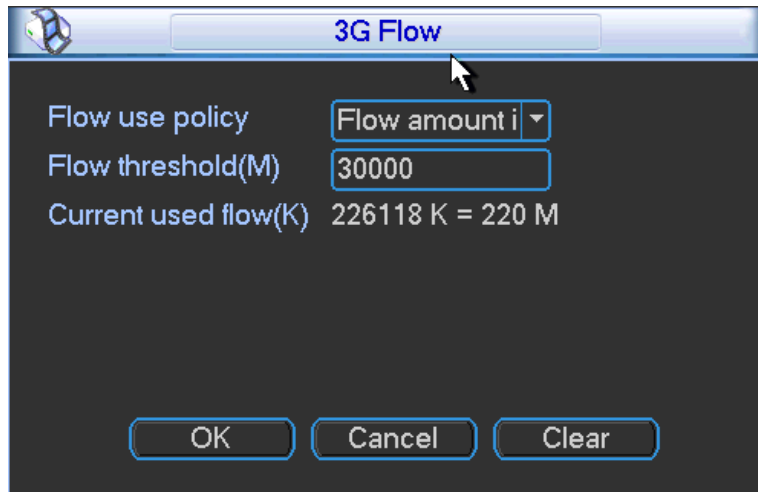

Figure 4-70
- 3G flow control: It is to show the 3G flow you used. See Figure 4-70.